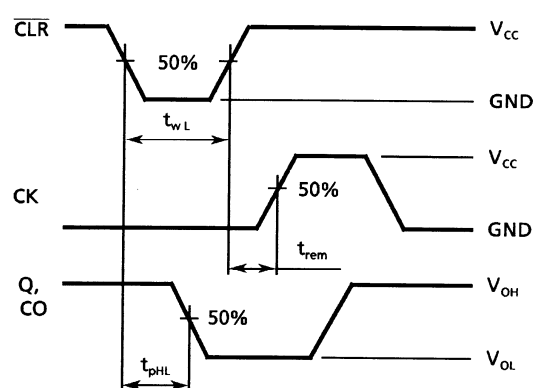

Figure 4
| Minimum pulse width( $\overline{\text{CLR}}$ ) (Note 1)   | $t_W$ (L)              | Figure 4                     | 2.0                 | —    | 75                     | ns   |
| Minimum removal time( $\overline{\text{CLR}}$ ) (Note 1)  | $t_{\text{rem}}$       | Figure 4                     | 2.0                 | —    | 50                     | ns   |
| Propagation delay time( $\overline{\text{CLR}}$ -Q)(Note)  | $t_{PHL}$              | Figure 4       | —   | 17   | 26  | ns   |
| Propagation delay time( $\overline{\text{CLR}}$ -CO)(Note) | $t_{PHL}$              | Figure 4       | —   | 20   | 35  | ns   |
| Propagation delay time( $\overline{\text{CLR}}$ -Q) (Note 2)  | t pHL                     | Figure 4       | 2.0                 | —   | 60   | 150 | —                   | 190 | ns   |
| Propagation delay time( $\overline{\text{CLR}}$ -CO) (Note 2) | t pHL                     | Figure 4       | 2.0                 | —   | 72   | 200 | —                   | 250 | ns   |